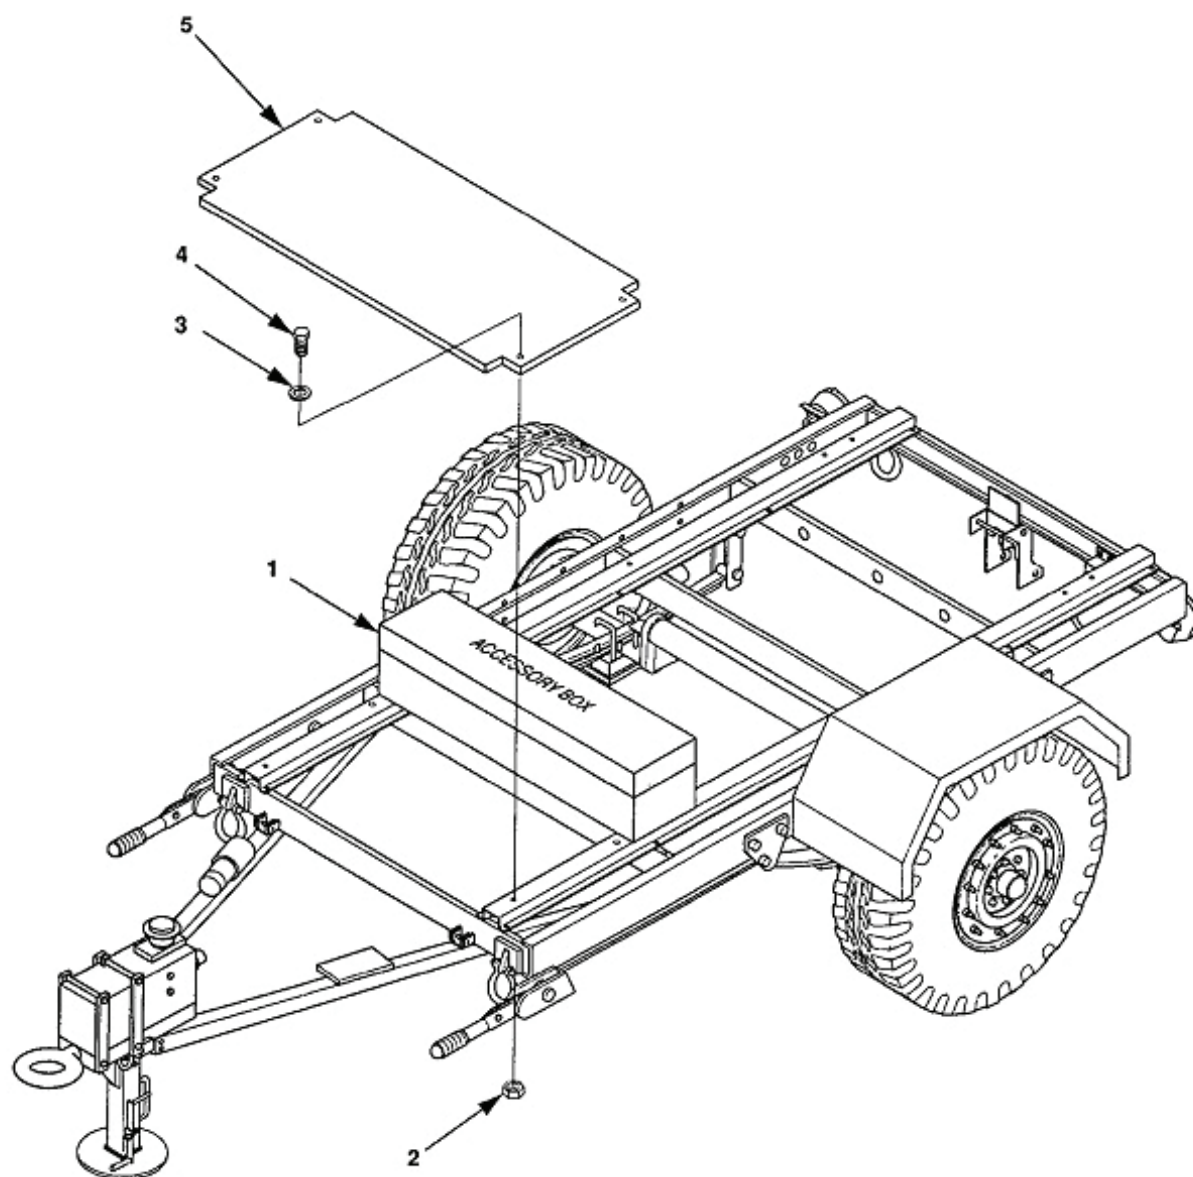

Figure 4-24. Front Platform Replacement, 1 Ton Trailer.
2. Remove four self-locking nuts (2, figure 4-24), flat washers (3), cap screws (4), and front platform (5). Discard self-locking nuts (2)